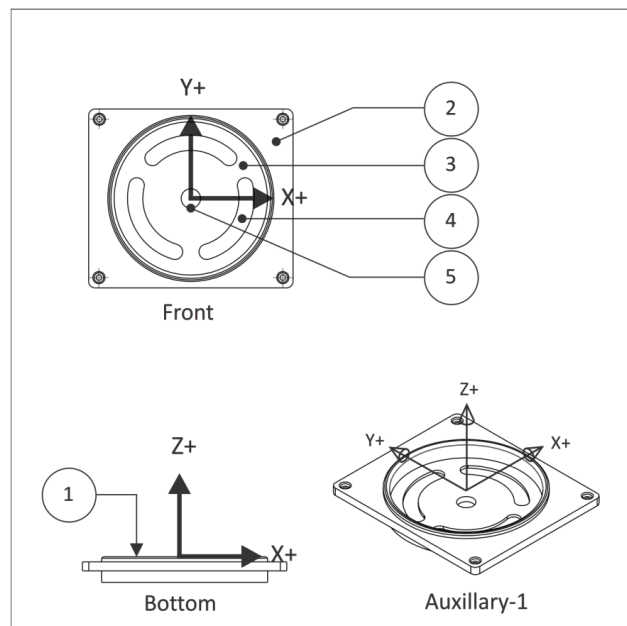

Figure 1: Prismatic Part (Orientation in CAD)
Figure 1 shows a prismatic part. All machined features lie parallel to the XY plane. Each Z-level can be machined by positioning the tool at a fixed Z-level and then moving the XY axes to remove material. Every feature can be reached with the tool approaching either from the Front or Bottom views. There are several cutting planes in this example, including the model top (1), top of the face where the holes start (2), the bottom of the pocket (3) where the slots begin, the bottom of the slots (4), and the bottom of the hole through the center (5).